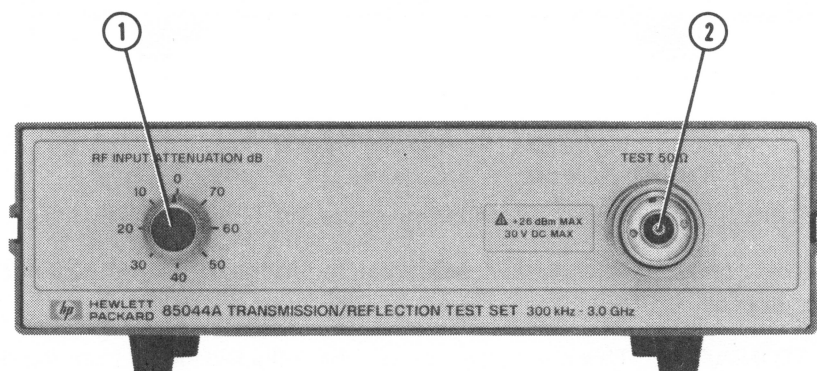
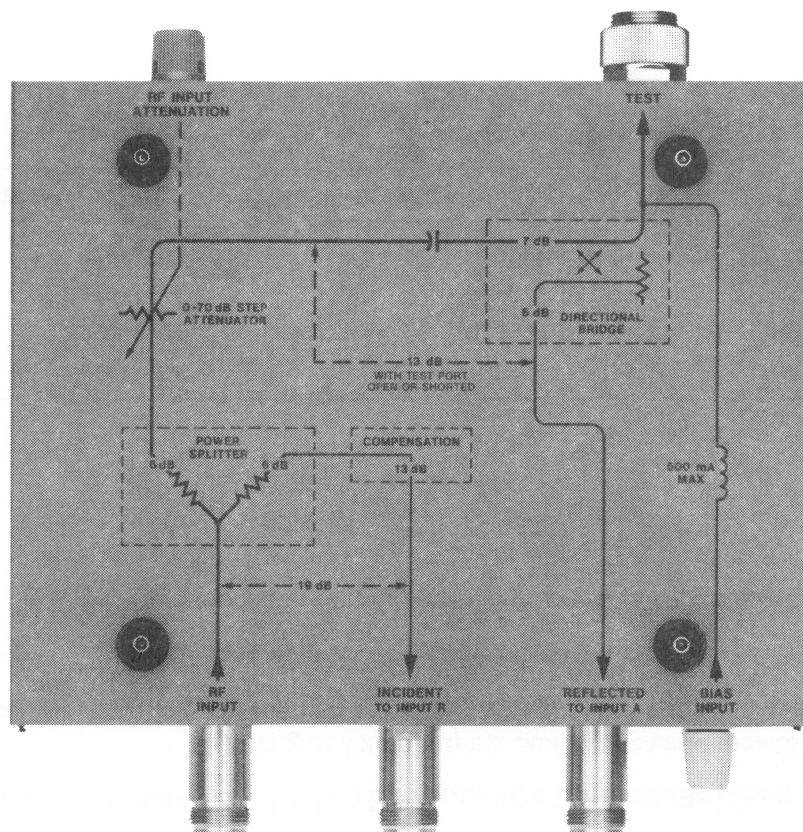
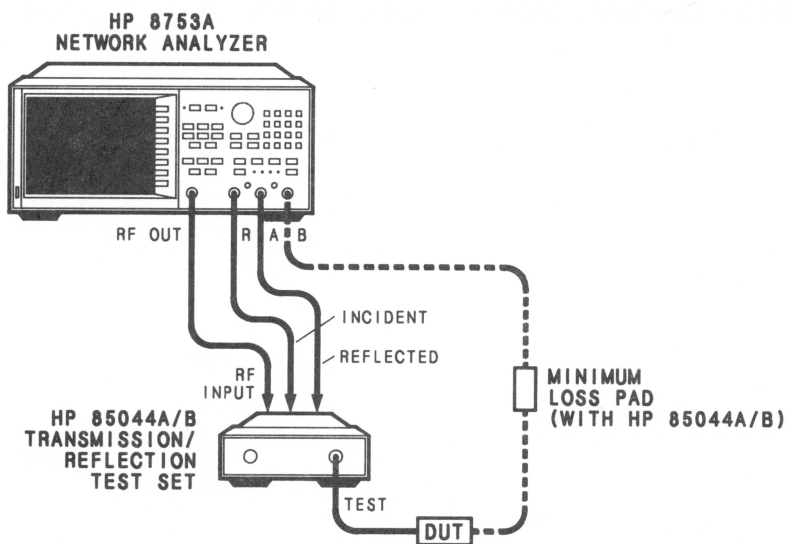

Figure 3-1. Front Panel Features.
Figure 3-3. HP85044A Case Bottom Showing RF Signal Path.
Figure 3-4. Typical Measurement Setup.
This section illustrates the features and functions of the front and rear panels of the test set (Figures 3-1 and 3-2). Figure 3-3 shows the case bottom (which depicts the RF signal path through the test set). Figure 3-4 shows a typical test set measurement setup.
1. Connect the equipment as shown in Figure 3-4 but do not connect the DUT.